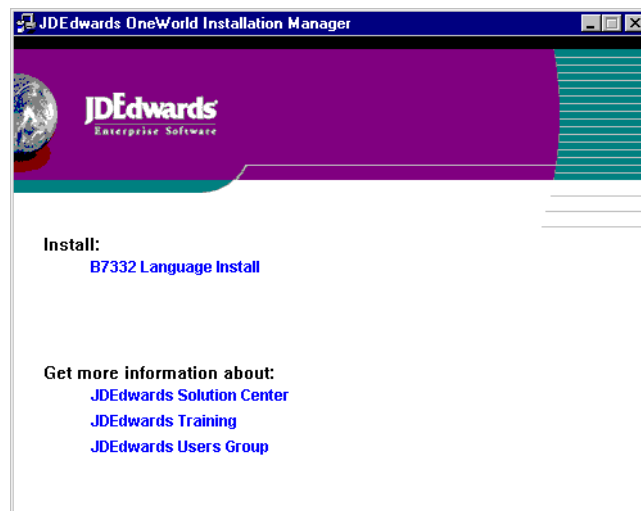

Figure 254. OneWorld language installation
3. If the setup does not start automatically, use Windows NT Explorer to find the CD drive and click it. Find and double-click the **setup.exe** file for the language. A display appears like the example in Figure 254.